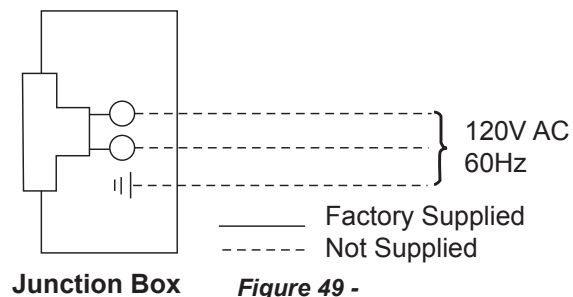

Figure 49 -
3. The junction box cover has a factory installed "romex" style strain relief connector. After connecting the wires, route the wire leads through this connector. Refer to the wiring diagram in *Figure 49*.